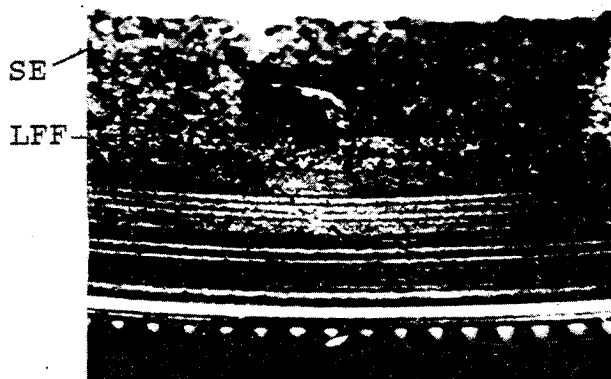

Figure 3 — (1) Inclusion: flash
- (1) Inclusion (see figure 3, figure 4 and figure 5)